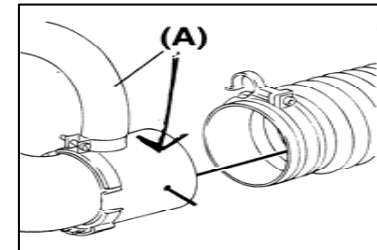

Fig 16. Copper wire assembly.
- ☐ i. Attach the copper wire into hole on the right side of elbow outlet (Fig. 16-A). Push pleated hose (Fig-17-13) over the elbow outlet as far as it will go. Copper wire is bent over as you push the pleated hose (Fig. 17-13) into position.